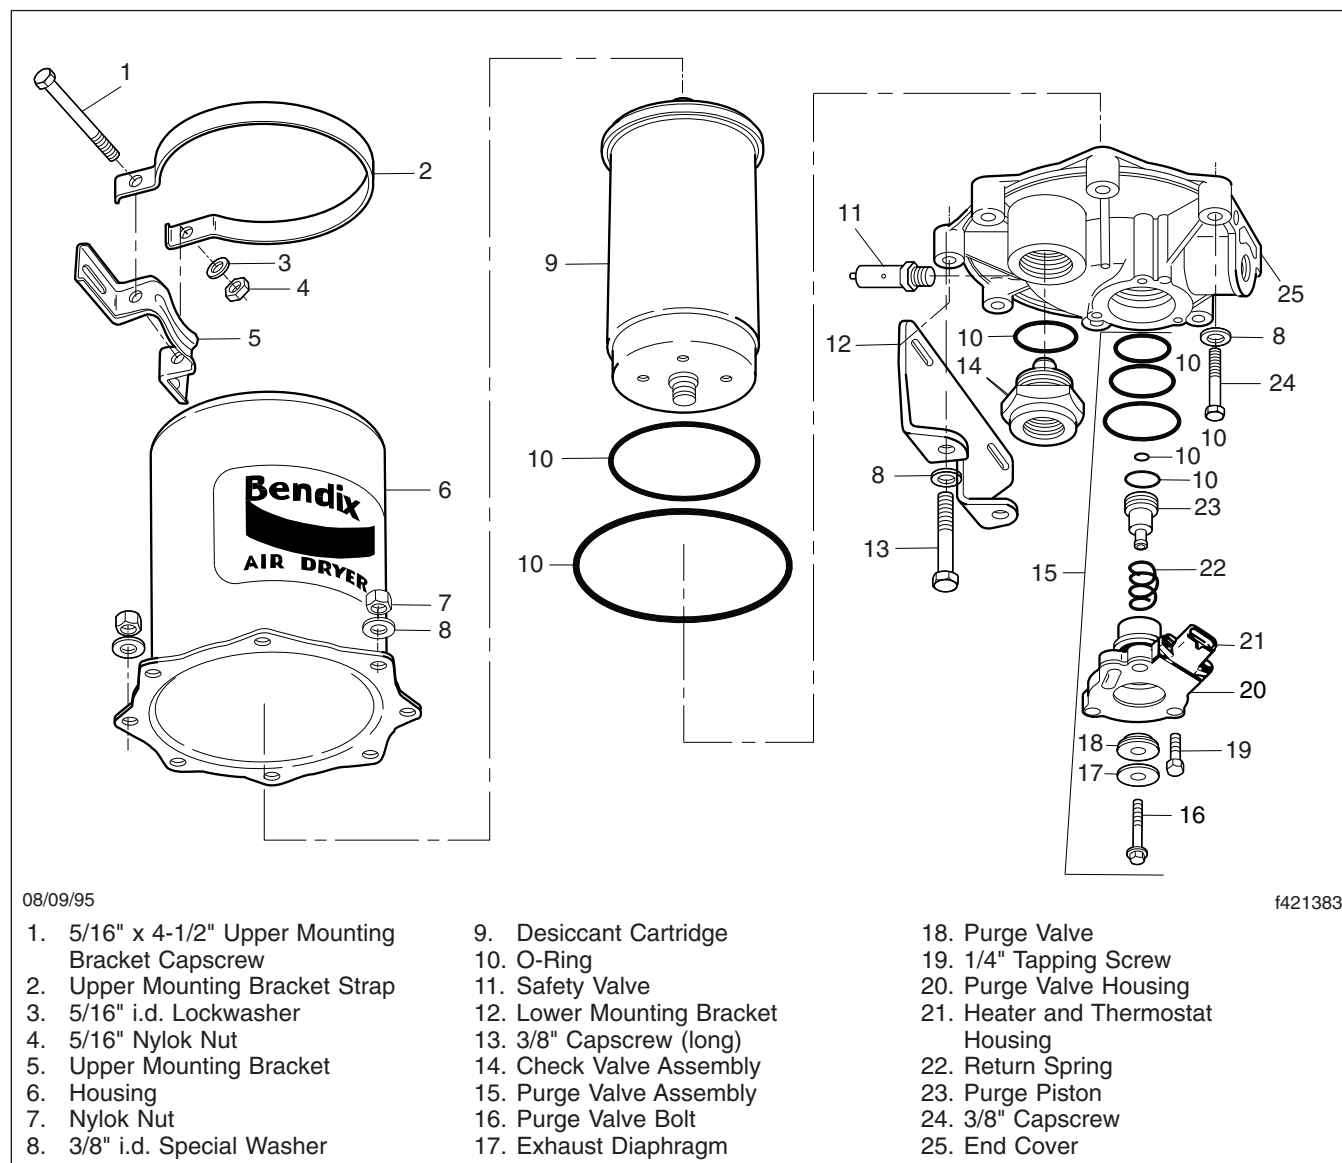

Fig. 2, AD-9 Air Dryer (exploded view)
8. Place the air dryer on a bench and remove the remaining 6 capscrews, 12 washers, 6 Nylok® nuts, and the air dryer housing; see Fig. 2. Discard the Nylok nuts. Remove the end-cover-to-housing O-ring.